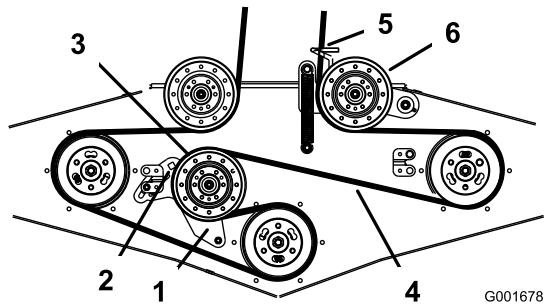

Figure 44
4. Loosen the fixed idler arm and adjust it to relieve the belt tension on the fixed idler pulley (Figure 44).
- Install the new belt through the belt guide and on the pulleys (Figure 44).